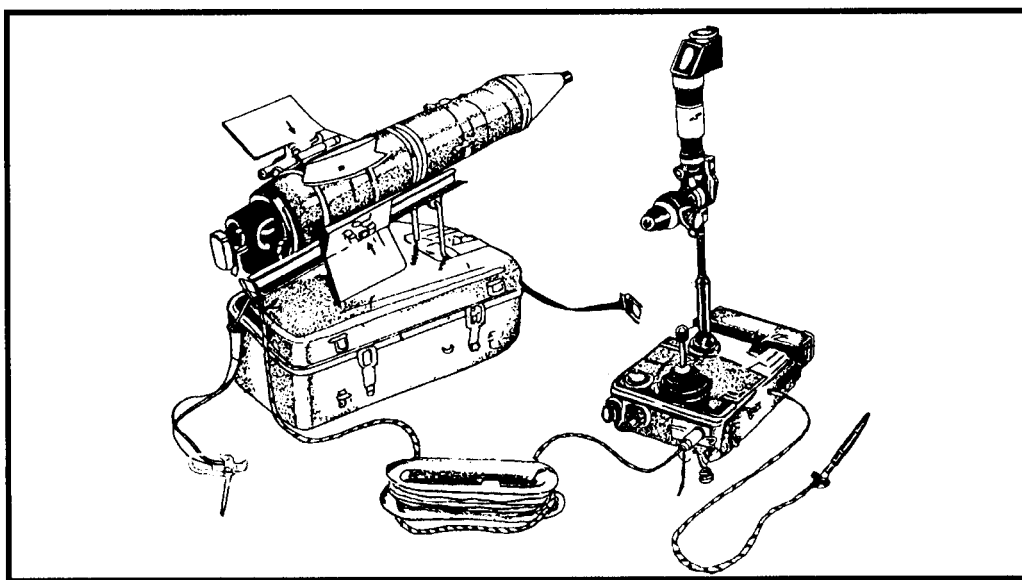

Figure F-6. AT-3 Sagger/manpack.
- b. **AT-3 Sagger** (Figure F-6).